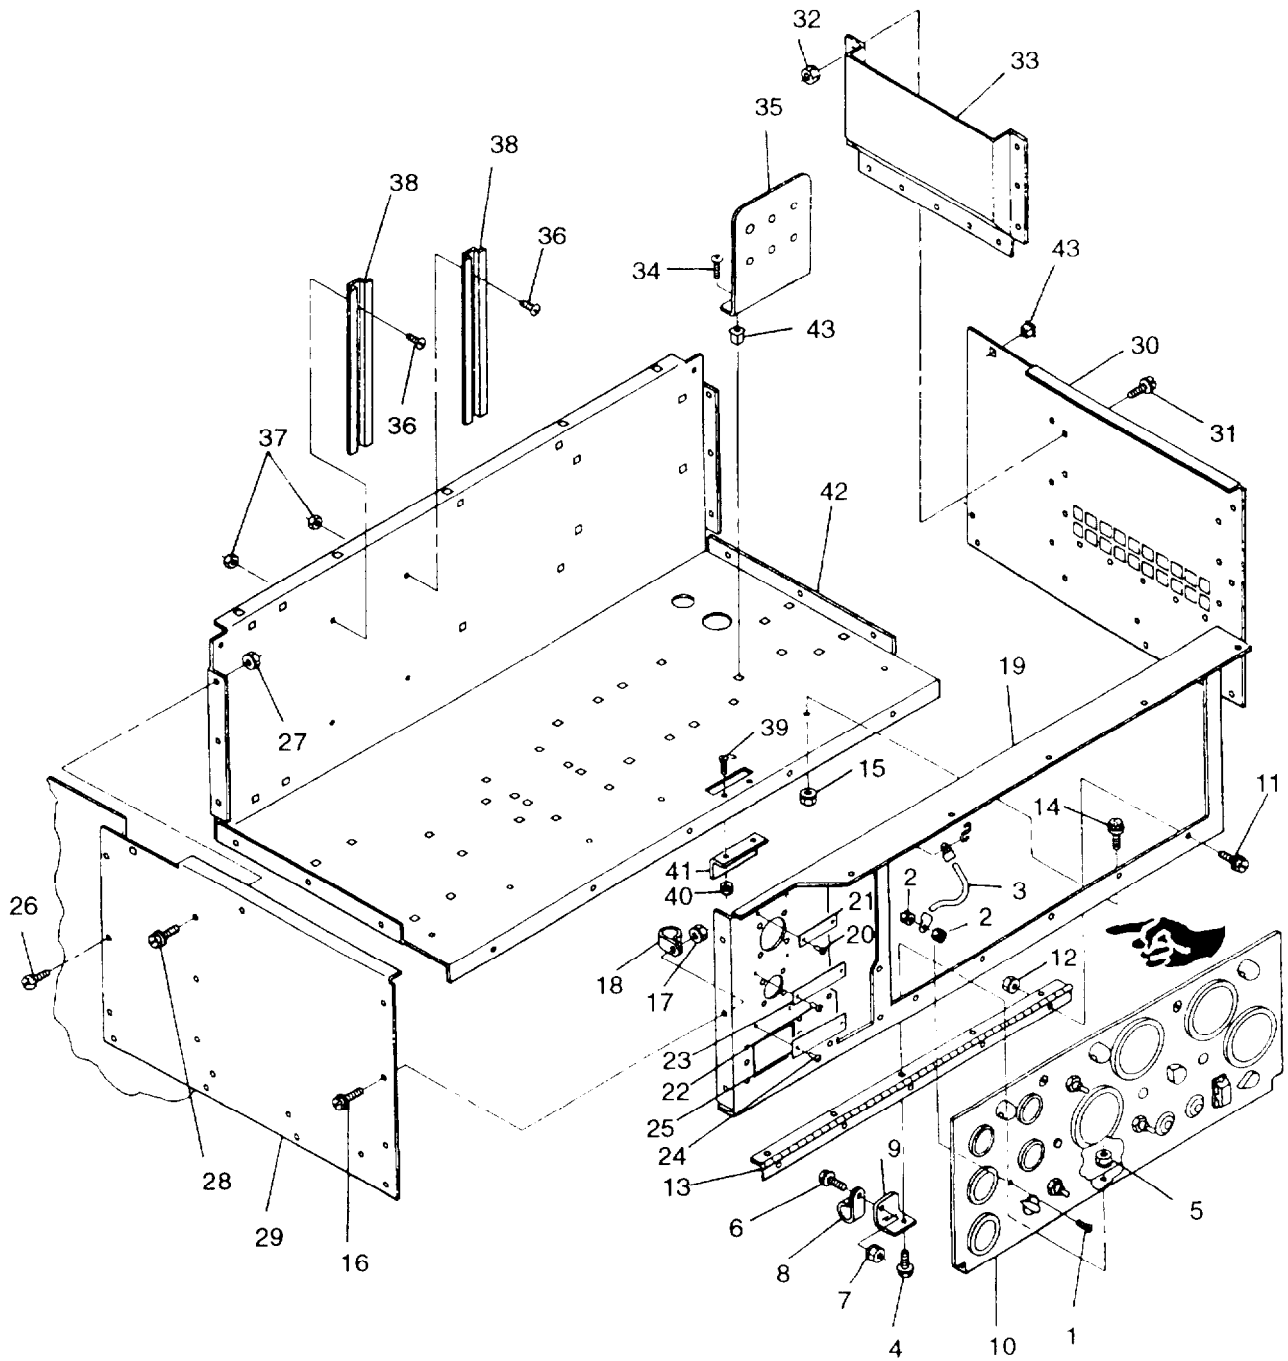

FIGURE 2-19. Control Box Panels
Inspect control panel (10, FIGURE 2-19) for dents, cracks, loose paint, and corrosion
- f. Tag and disconnect all electrical leads to remaining indicators and switches on control panel (10, FIGURE 2-19).
- g. Remove screw (1). nuts (2). and strap (3).
- h. Remove bolts (4) and (6), nuts (5) and (7), bracket (9), clamp (8), and control panel (10) from control box assembly.
- i. Remove bolts (11), nuts (12), and hinge (13) from control box assembly.
- c. Repaint surface in accordance with TM 43-0139. (F) Refer to applicable directives.
- a. Install hinge (13, FIGURE 2-19) on control box assembly with bolts (11) and nuts (12)
- b. Install control panel (10), clamp (8), and bracket (9) on control box assembly with bolts (4) and (6). and nuts (5) and (7).
- c. Install strap (3) on control panel (10) with screw (1) and nuts (2)
Inspect control panel frame (19, FIGURE 2-19) for dents, cracks, loose paint, and corrosion.
- h. Remove bolts (14 and 16, FIGURE 2-19), nuts (15) and (17), clamp (18), and control panel frame (19) from control box assembly.
- i. If necessary, drill out rivets (20), (22), and (24) and remove identification plates (21), (23), and (25).
- l. Repaint surface in accordance with TM 43-0139. (F) Refer to applicable directives.
- a. Install control panel frame (19, FIGURE 2-19) and clamp (18) to control box assembly with bolts (14) and (16) and nuts (15) and (17).
- b. If removed, install identification plates (21), (23), and (25) on rear panel (19) with rivets (20), (22), and (24).
- a. Inspect side panels (29 and 30, FIGURE 2-19) and air deflector (33) for dents, cracks, loose paint, and corrosion.
- b. Inspect for missing or damaged cage nuts (43).
- d. Remove bolts (16, 26, and 28, FIGURE 2-19), nuts (17) and (27), and control box side panels (29) and (30) from generator set.
- e. Remove bolts (31), nuts (32), and air deflector (33) from side panel (30).
- a. Apply a light coat of sealant (Item 16, Appendix C) to flanges of air deflector (33 FIGURE 2-19).
- b. Install air deflector (33) on control box side panel (30) with bolts (31) and nuts (32).
- c. Install control box side panels (29 and 30, FIGURE 2-19) on generator set with bolts (16), (26), and (28) and nuts (17) and (27). Ensure center bolt (16) and nut (17) on left side panel secures clamp (18).
- f. Inspect control box bottom (42, FIGURE 2-19) for dents, cracks, loose paint, and corrosion.
- g. Inspect for missing or damaged cage nuts (43).
- h. Remove screws (34, FIGURE 2-19) and bracket (35) from control box bottom (42).
- i. Remove screws (36), nuts (37), and relay tracks (38) from control box bottom (42).
- j. Remove screws (39), nuts (40), and latch plate (41) from control box bottom (42).
- a. Install latch plate (41, FIGURE 2-19) on control box bottom (42) with screws (39) and nuts (40).
- b. Install relay tracks (38) on control box bottom (42) with screws (36) and nuts (37).
- c. Install bracket (35) on control box bottom (42) with screws (34).